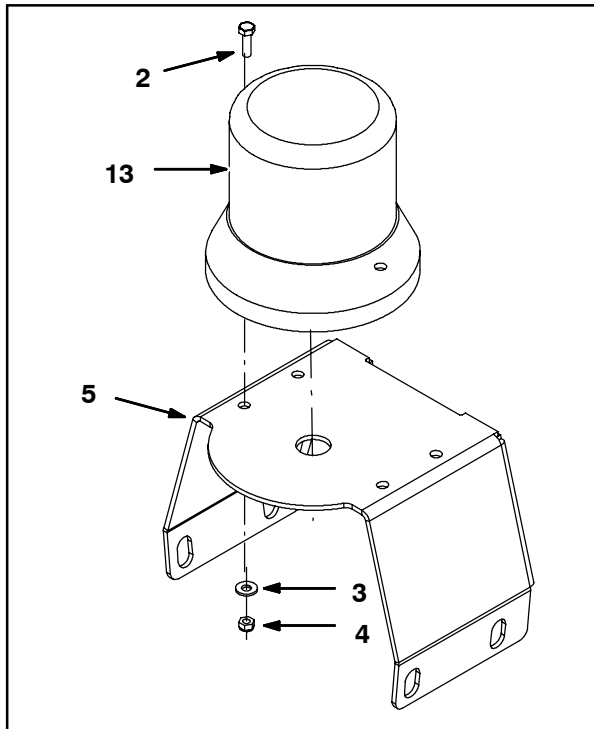

FIG. 2
2. Route the wires from the strobe light (13) down through the hole in the light support bracket (5) and use a hex screw (2), flat washer (3), and hex nut (4) to install the light onto the bracket. Refer to Fig. 2.